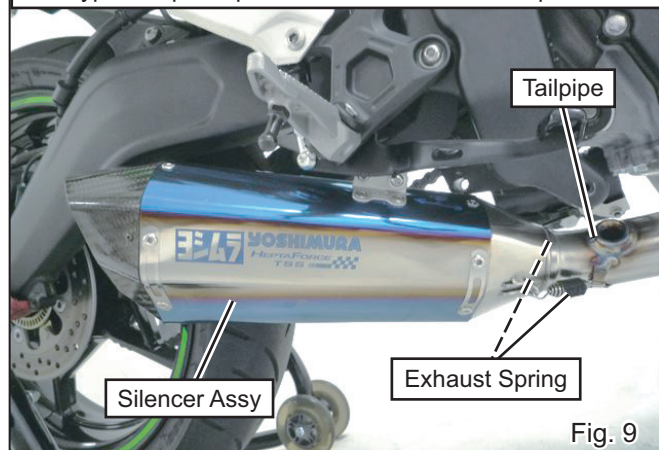

Fig. 9
- 8) Mount Silencer Assembly on Tailpipe and install 2 of Exhaust Spring. (See Fig. 9)